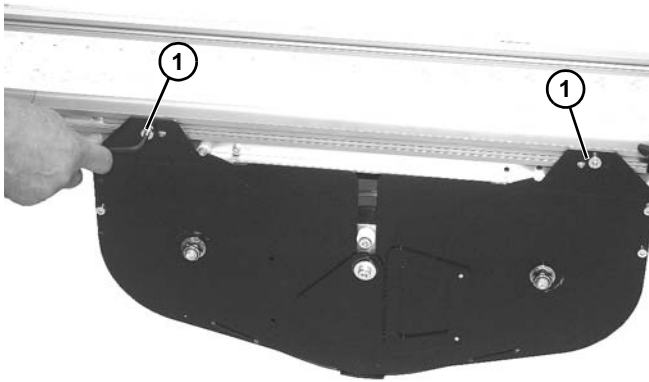

Figure 63
5. Install and tighten two screws (**Figure 63, item 1**) on each side to secure assembly to frame.